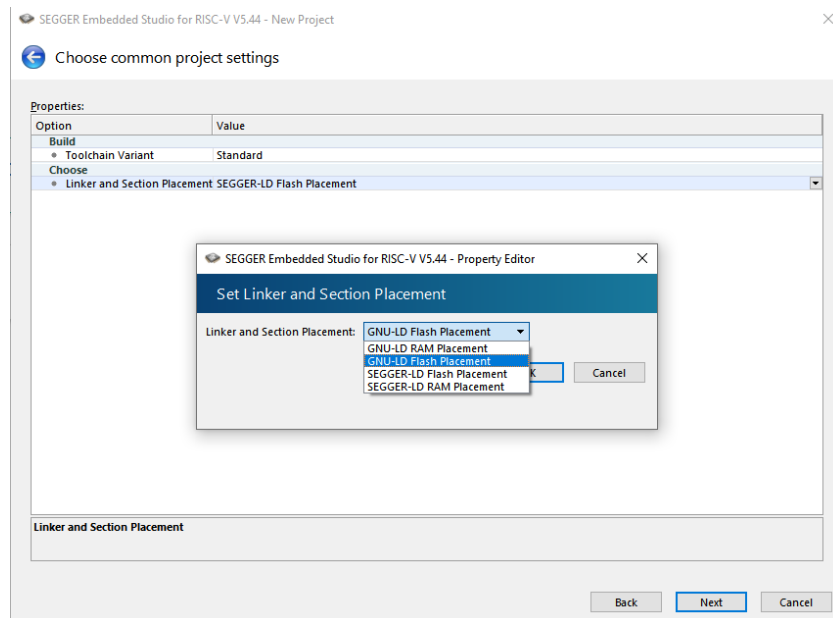

Figure 6-6 Embedded Studio, Linker and Section Placement
7. And for the project setting, please change the Link and Section Placement to "GNU-LD Flash Placement", as shown in Figure 6-6.